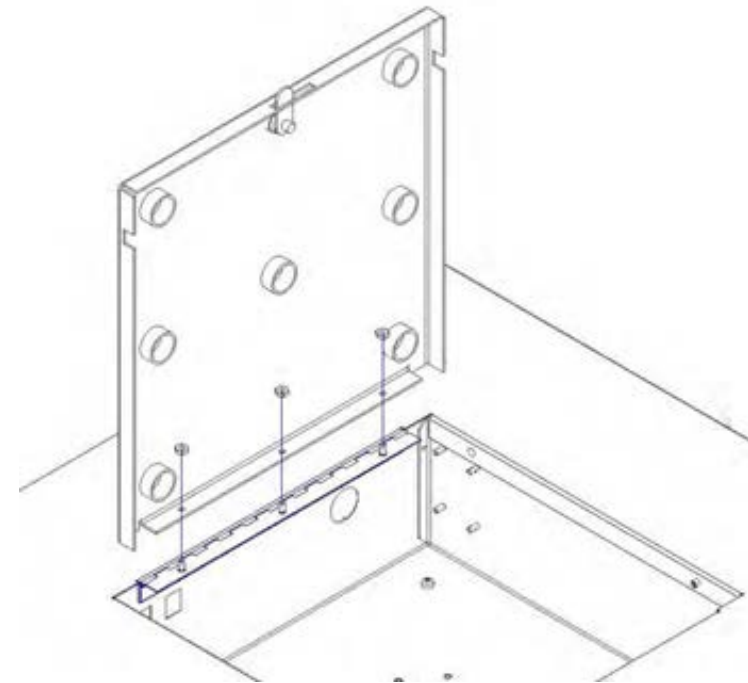

Figure 3
Step 3 – Remove the current door (if not previously done) and replace it with the new door assembly. To remove the old door, open the enclosure and remove the three (3) hex nuts holding the door in place (Figure 3).